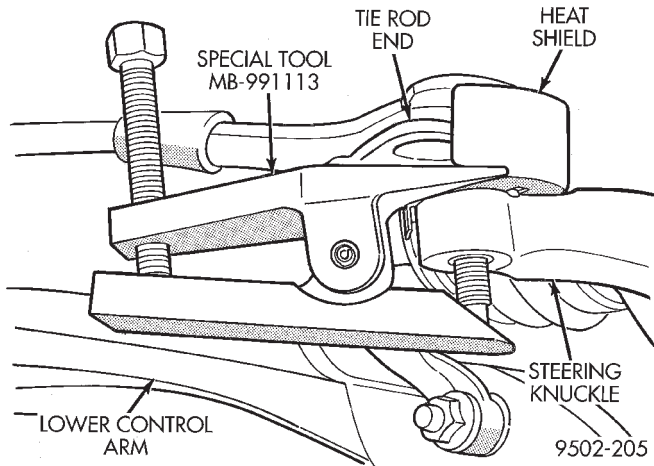

Fig. 19 Tie Rod End Removal From Steering Knuckle
(11) Remove the tie rod end from steering knuckle arm, using Remover, Special Tool MB-991113 (Fig. 19).